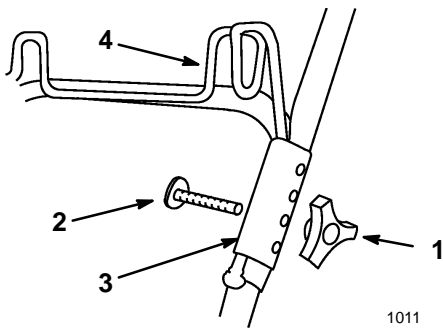

Figure 37
9. Remove the knob and bolt securing the left side upper and lower handle sections (Fig. 37).
- B. Remove the bolts and knobs securing the hanger clamps to the handle sections (Fig. 37).